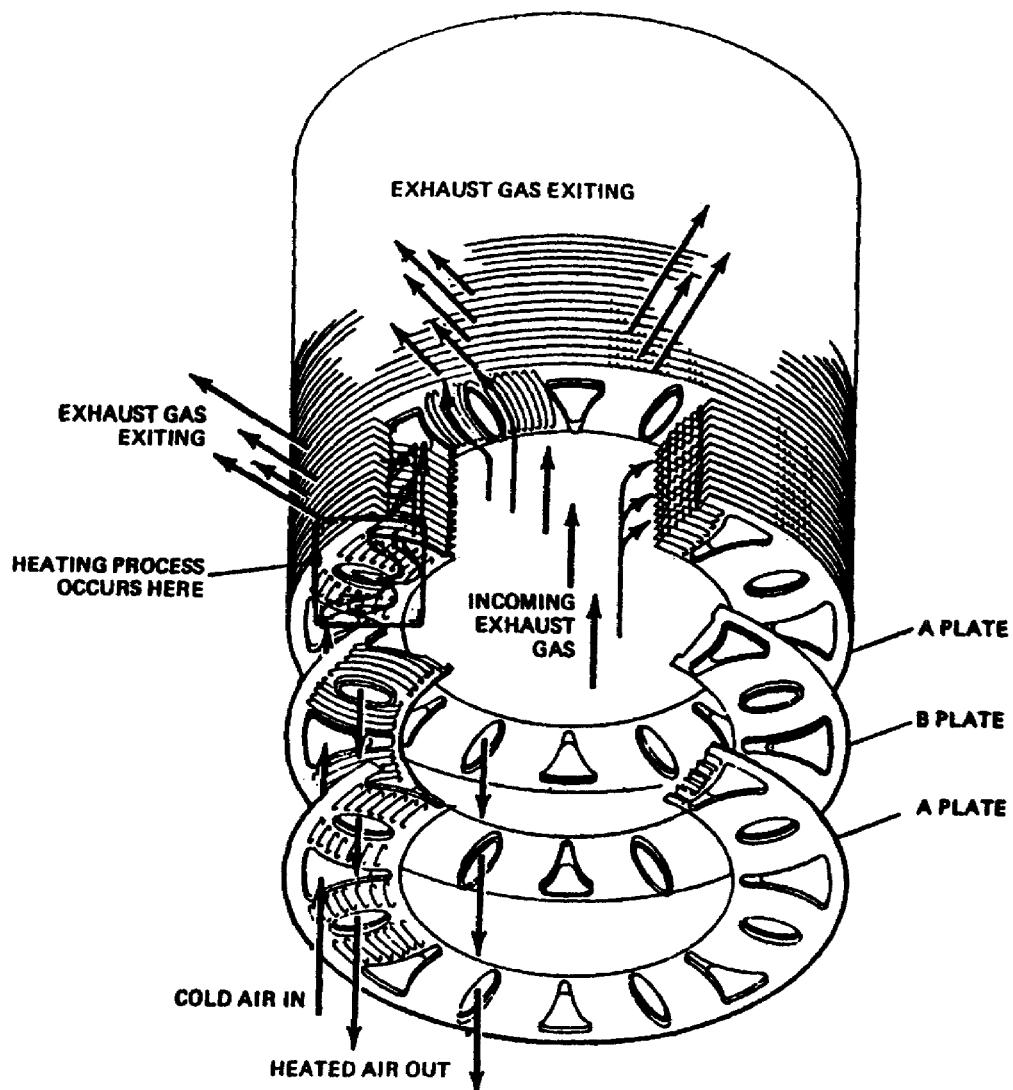

Figure 1-23. Typical Recouperator.
(11) Recouperator. The function of the recouperator, also called regenerator, is to transfer heat from the exhaust gases to the air entering the engine. This process allows the incoming air to expand prior to combustion. As a result, less heat is required during the combustion process to obtain a fully expanded airmass with maximum velocity. The recouperator is cylindrically shaped with a hollow passageway through the middle. Triangular and oval-shaped ports are placed alternately around the perimeter and pass through the length of the recouperator (Figure 1-23). Two different types of plates are alternately stacked to construct the recouperator.